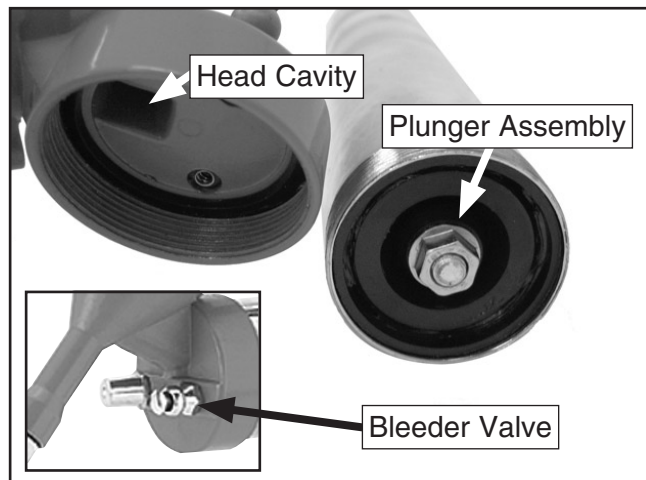

Figure 5. Grease locations and bleeder valve.
5. Without introducing bubbles, pack grease into the head cavity and plunger assembly until they are full (**Figure 5**).
4. Push the follower rod all the way forward while holding down the bleeder valve shown in **Figure 5**, until the air is expelled from the gun.